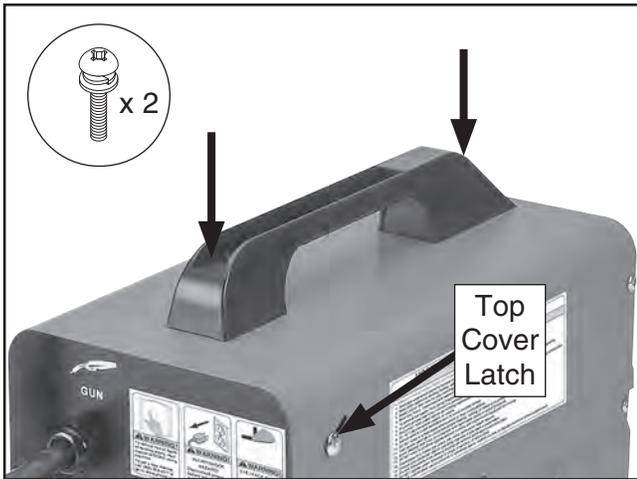

Figure 10. Handle installed.
1. Install handle using (2) Phillips head screws with pre-installed lock washers and flat washers (see **Figure 10**).
2. Slide latch back to lift top cover and expose wire spool spindle and feed mechanism (see **Figure 10**).